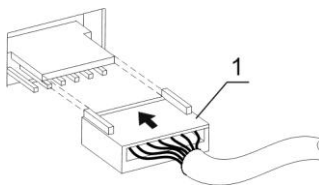

Fig.1 Thermo-block connection
- Remove the four knurled screws (fig.2/1); disconnect the plug (fig.1/1).